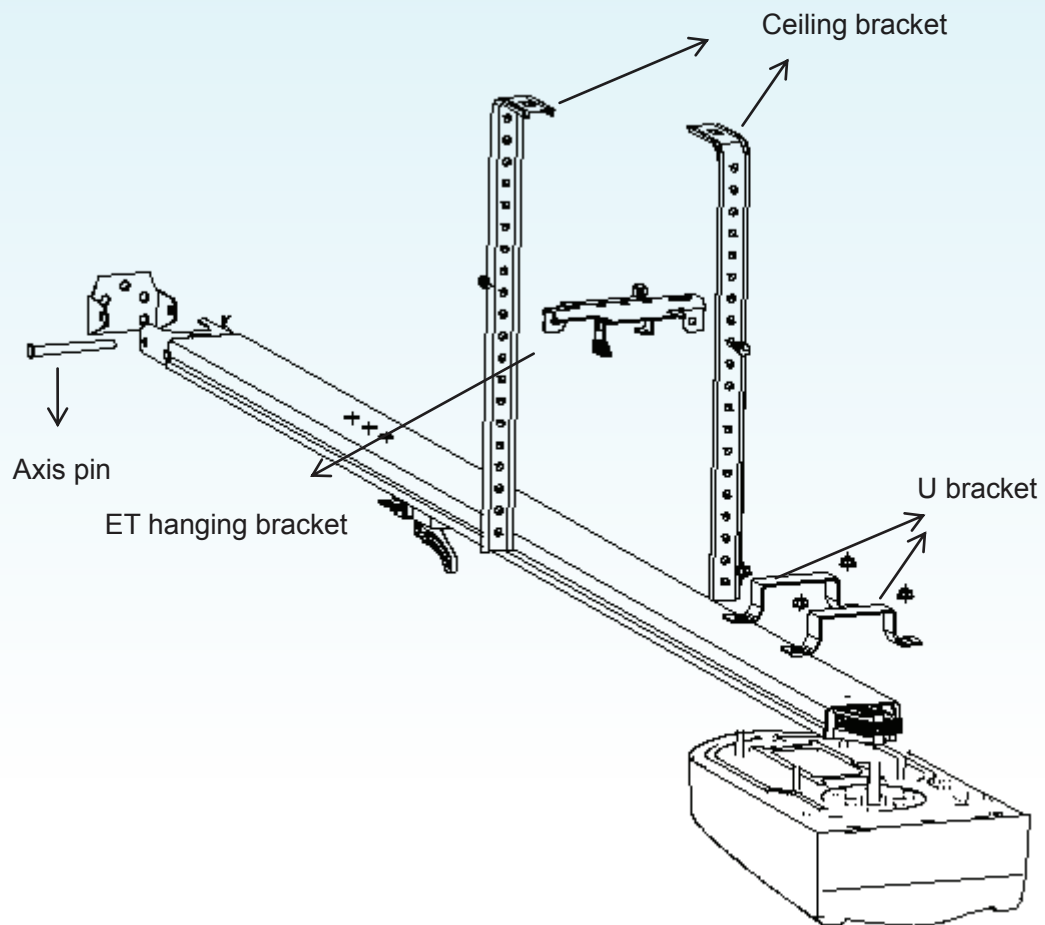

Fig. 8
2. Fixing the steel track to the wall bracket with axis pin. (Fig. 8)